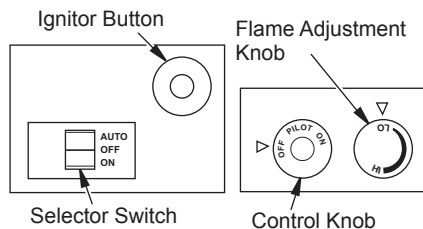

Figure 32 - Control Knob and Ignitor Button Location (Shown as Supplied, No Control Options)
5. Wait five (5) minutes to clear out any gas. Then smell for gas, including near the floor. If you smell gas, **STOP!** Follow "B" in the safety information, column 1. If you don't smell gas, go to the next step.
6. Press in and turn control knob counter-clockwise  to the PILOT position. Press in control knob for five (5) seconds (see Figure 32).